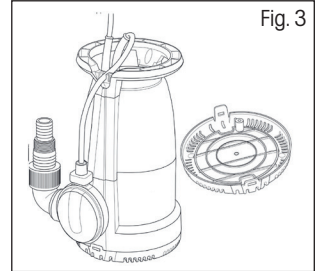

Fig. 3
2. Clean water suction cover – with this cover it is possible to suck only slightly contaminated water with impurities up to 3 mm. The residual level is reduced by about 5 cm when using this cover (Fig. 3).